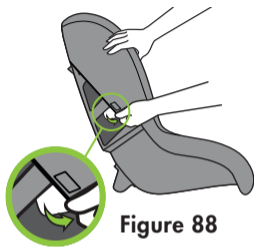

Figure 88
- Unfasten side tab on each side by sliding tabs down and out from under the edge of the Inner Shell, as shown in **Figure 88**.